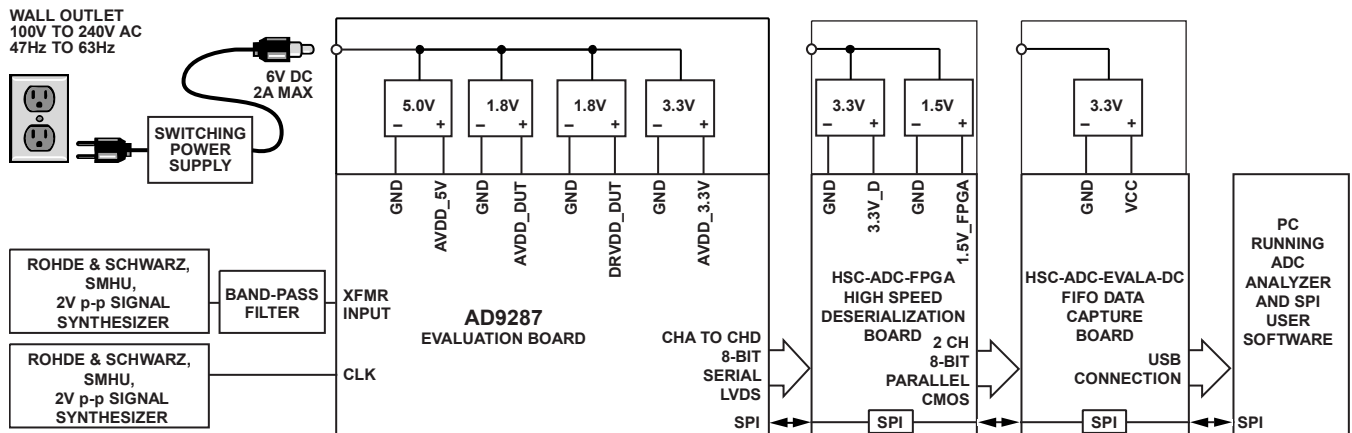
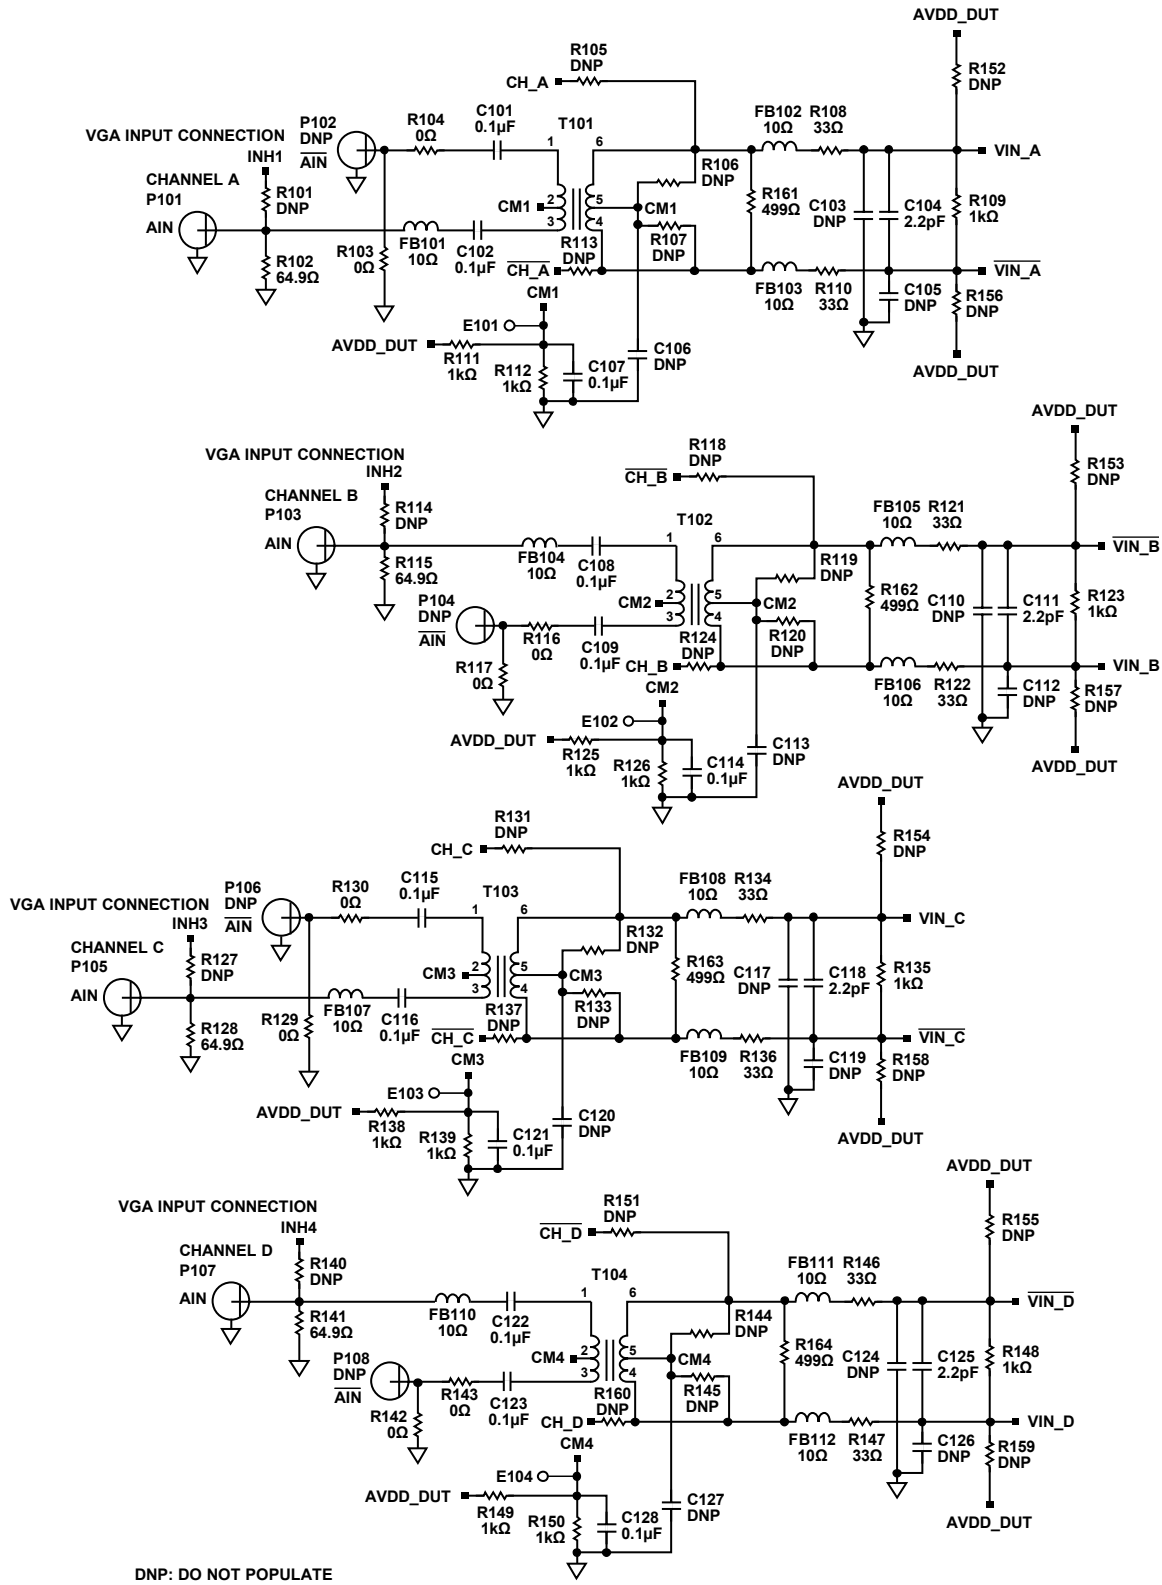
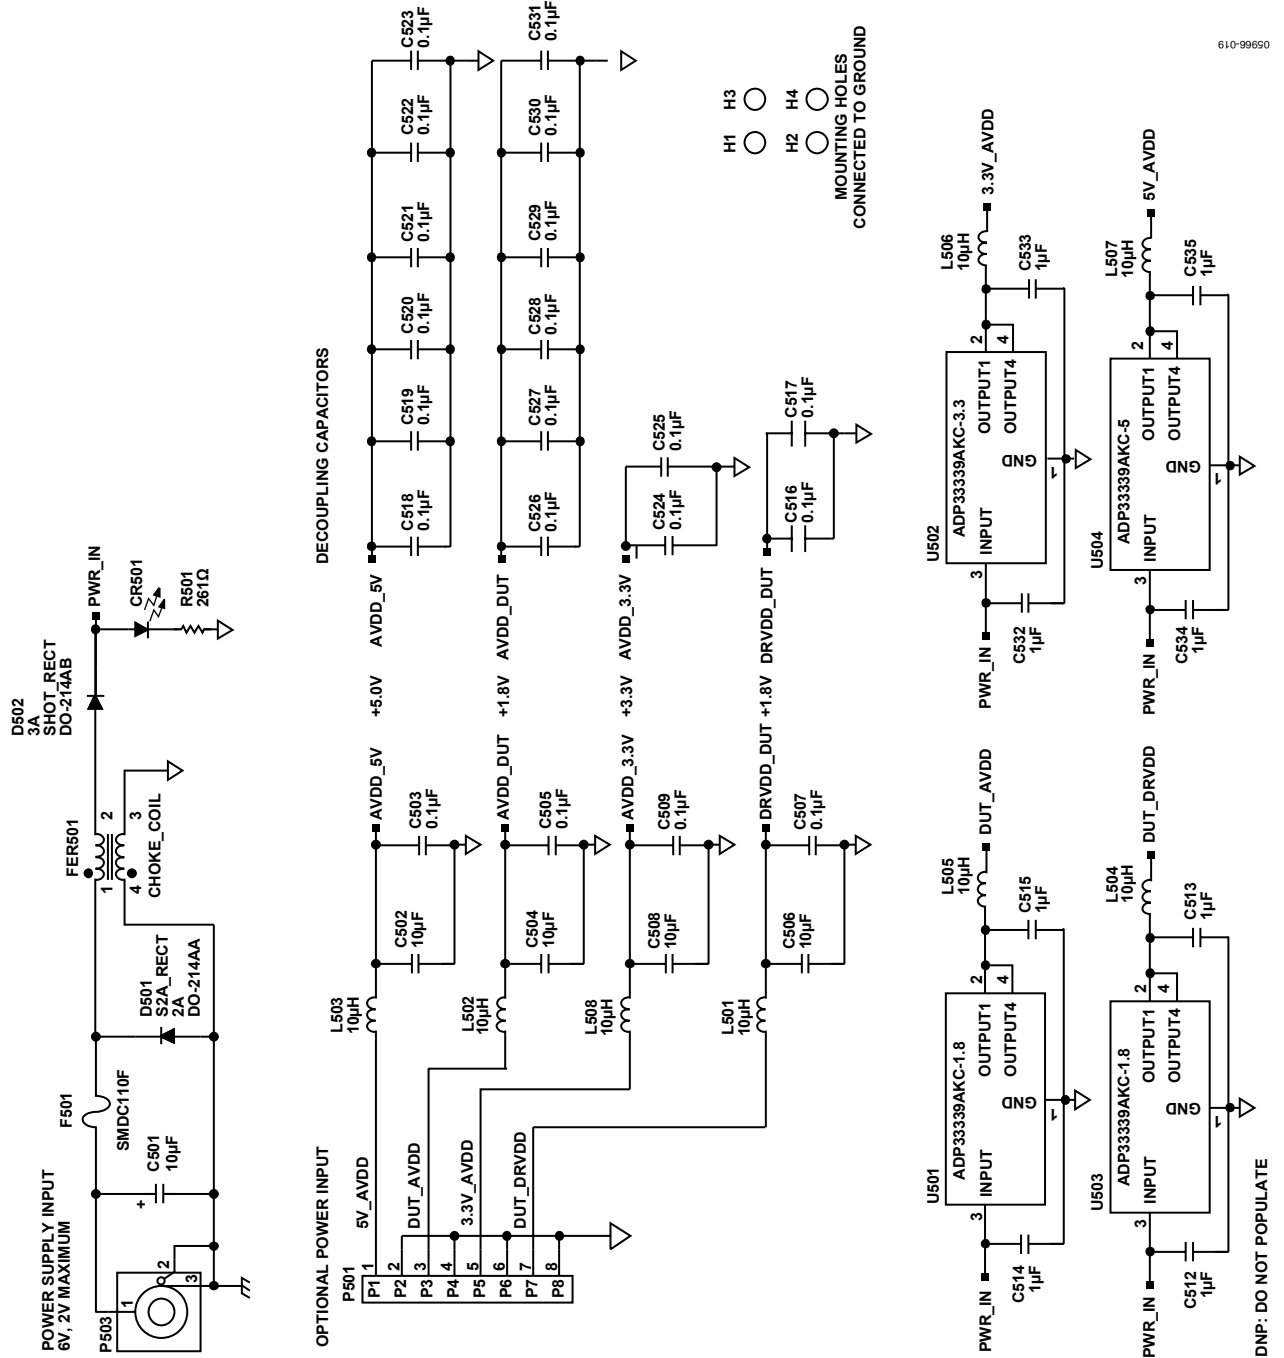

Figure 61. Evaluation Board Connection
Figure 63. Evaluation Board Schematic, DUT Analog Inputs
Figure 67. Evaluation Board Schematic, Power Supply Inputs
The AD9287 evaluation board provides all of the support circuitry required to operate the ADC in its various modes and configurations. The converter can be driven differentially through a transformer (default) or through the AD8332 driver. The ADC can also be driven in a single-ended fashion. Separate power pins are provided to isolate the DUT from the AD8332 drive circuitry. Each input configuration can be selected by proper connection of various jumpers (see Figure 63 to Figure 67). Figure 61 shows the typical bench characterization setup used to evaluate the ac performance of the AD9287. It is critical that the signal sources used for the analog input and clock have very low phase noise (<1 ps rms jitter) to realize the optimum performance of the converter. Proper filtering of the analog input signal to remove harmonics and lower the integrated or broadband noise at the input is also necessary to achieve the specified noise performance.
See Figure 63 to Figure 71 for the complete schematics and layout diagrams that demonstrate the routing and grounding techniques that should be applied at the system level.
- **D+, D-:** If an alternative data capture method to the setup described in Figure 61 is used, optional receiver terminations, R206 to R211, can be installed next to the high speed back-plane connector.